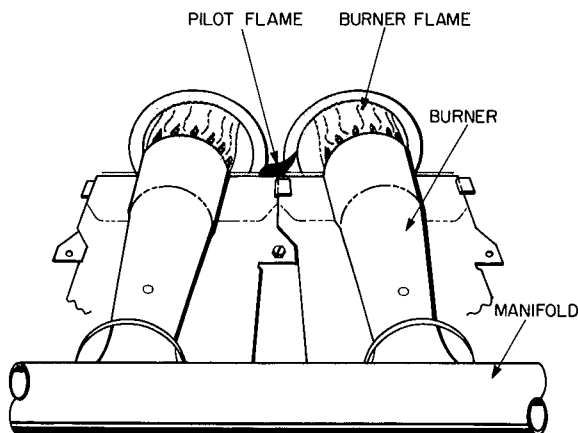

Fig. 8 — Proper Pilot and Burner Flames
2. Main burners should light 25 to 75 seconds after pilot. If main burners do not light within prescribed time period, adjust pilot flame, allow pilot to cool for 5 minutes, and repeat time check (Fig. 8).
- b. Turn adjusting screw either counterclockwise (out) to decrease input rate or clockwise to increase rate. When adjusting input rate, do NOT change manifold pressure more than 0.3 in. wg. Make any major adjustments by changing main burner orifices (Fig. 8).
3. Look through sight glass in burner enclosure and check burner and pilot flame. The main burner flame should be clear blue, almost transparent. The pilot flame should be well defined. See Fig. 8.